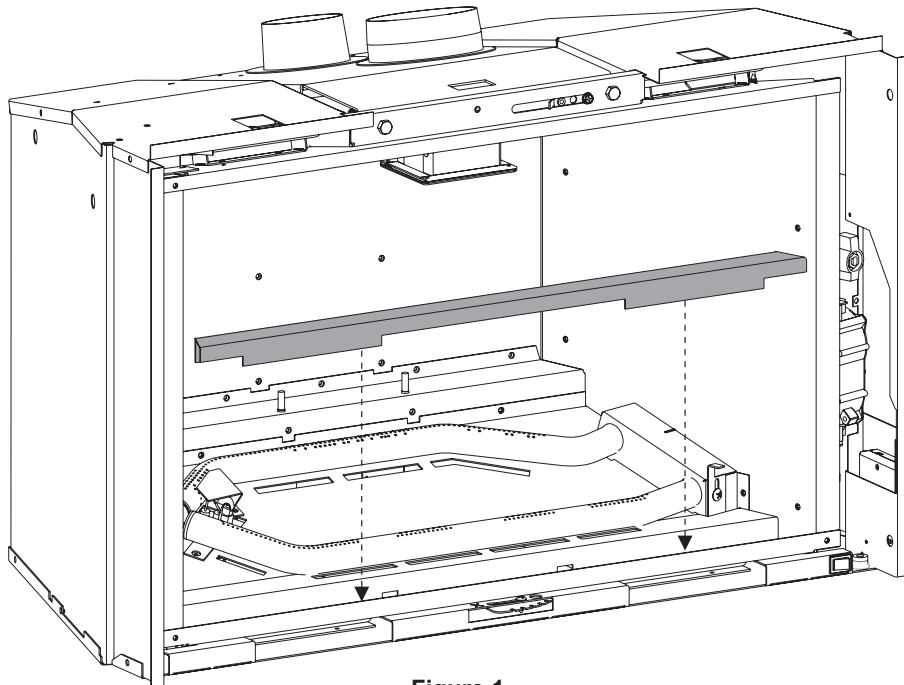

Figure 1
2. Place the **BOTTOM PANEL** as shown in **Figure 1**.